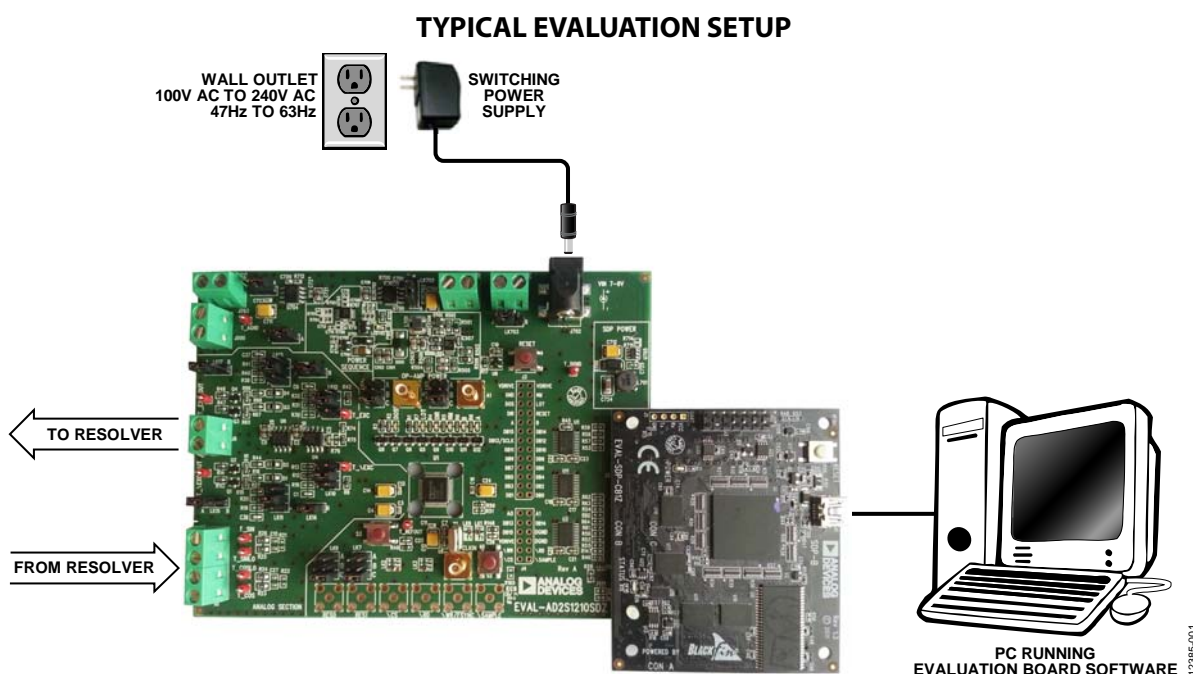

Figure 1. Typical Setup Using the **EVAL-AD2S1210SDZ** (Left) and the **EVAL-SDP-CB1Z** (Right)
7. Connect the EXC, $\overline{\text{EXC}}$, SIN, $\overline{\text{SIN}}$, COS, and $\overline{\text{COS}}$ wires of the resolver to Connector J5 and Connector J6, as shown in Figure 1.